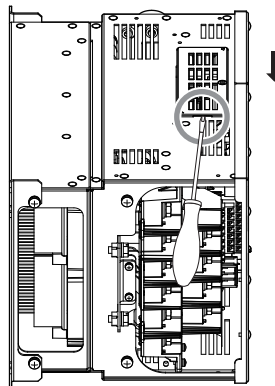

Figure 68 Removing the CN19 Connector Cover
3. Insert a straight-edge screwdriver into the opening as shown in Figure 68, then remove the CN19 connector cover by sliding it as shown in Figure 68.